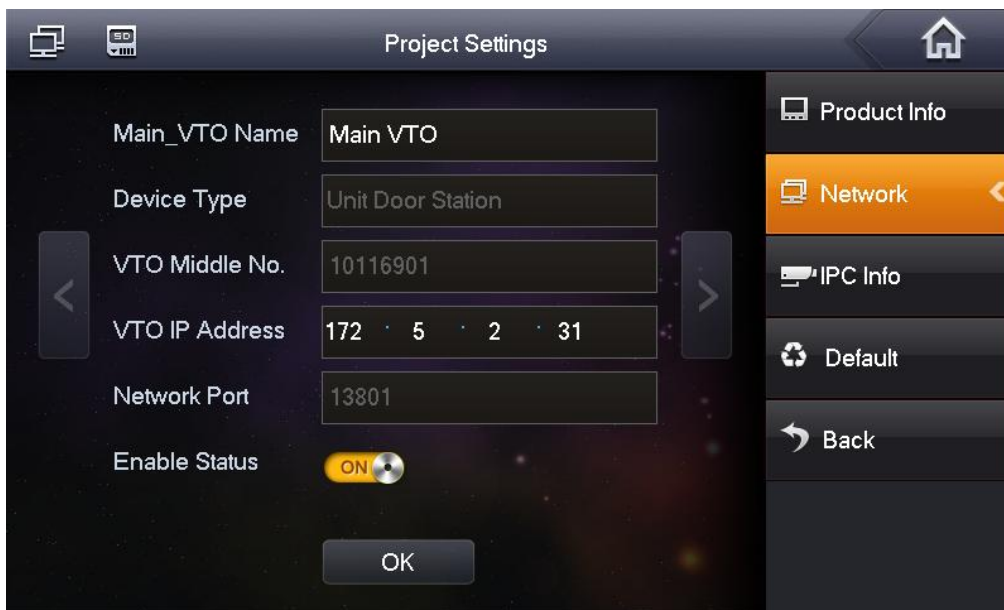

Figure 2-5
Step 2 Check Network, input main VTO IP in Network, then click OK to save it. See Figure 2-5.